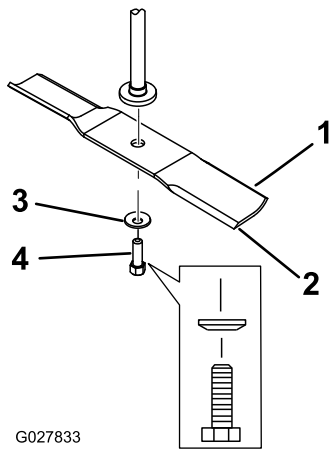

Figure 56
2. Remove the blade bolt, curved washer, and blade from the spindle shaft (Figure 56).
- Install the blade onto the spindle shaft (Figure 56).
- Install the curved washer (cupped side toward the blade) and the blade bolt (Figure 56).